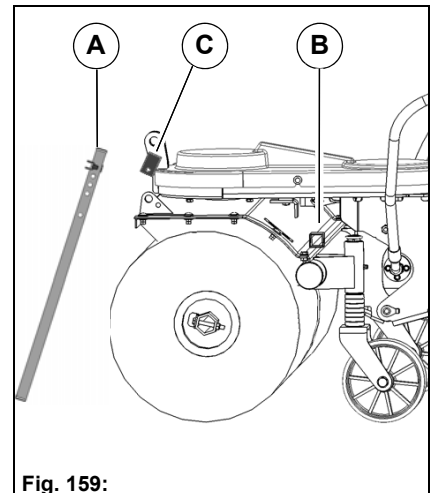

Fig. 159:
1. Loosen the support **Fig. 159-A** from the rear holder **Fig. 159-B** of the front sweeping machine by removing the bolt and split-pin.
2. Insert the support in the front holder **Fig. 159-C**.